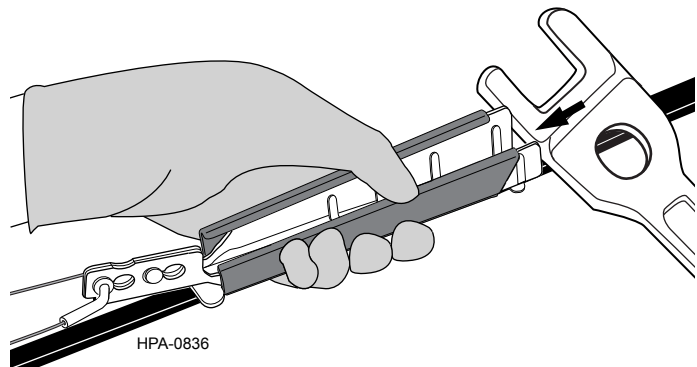

Figure 8
Step 3: Holding the outer shell with a gloved hand, strike the end of the inner wedge with a heavy tool such as a linesman's wrench to seat the wedge into the shell. One or two heavy taps should be sufficient (Figure 8).